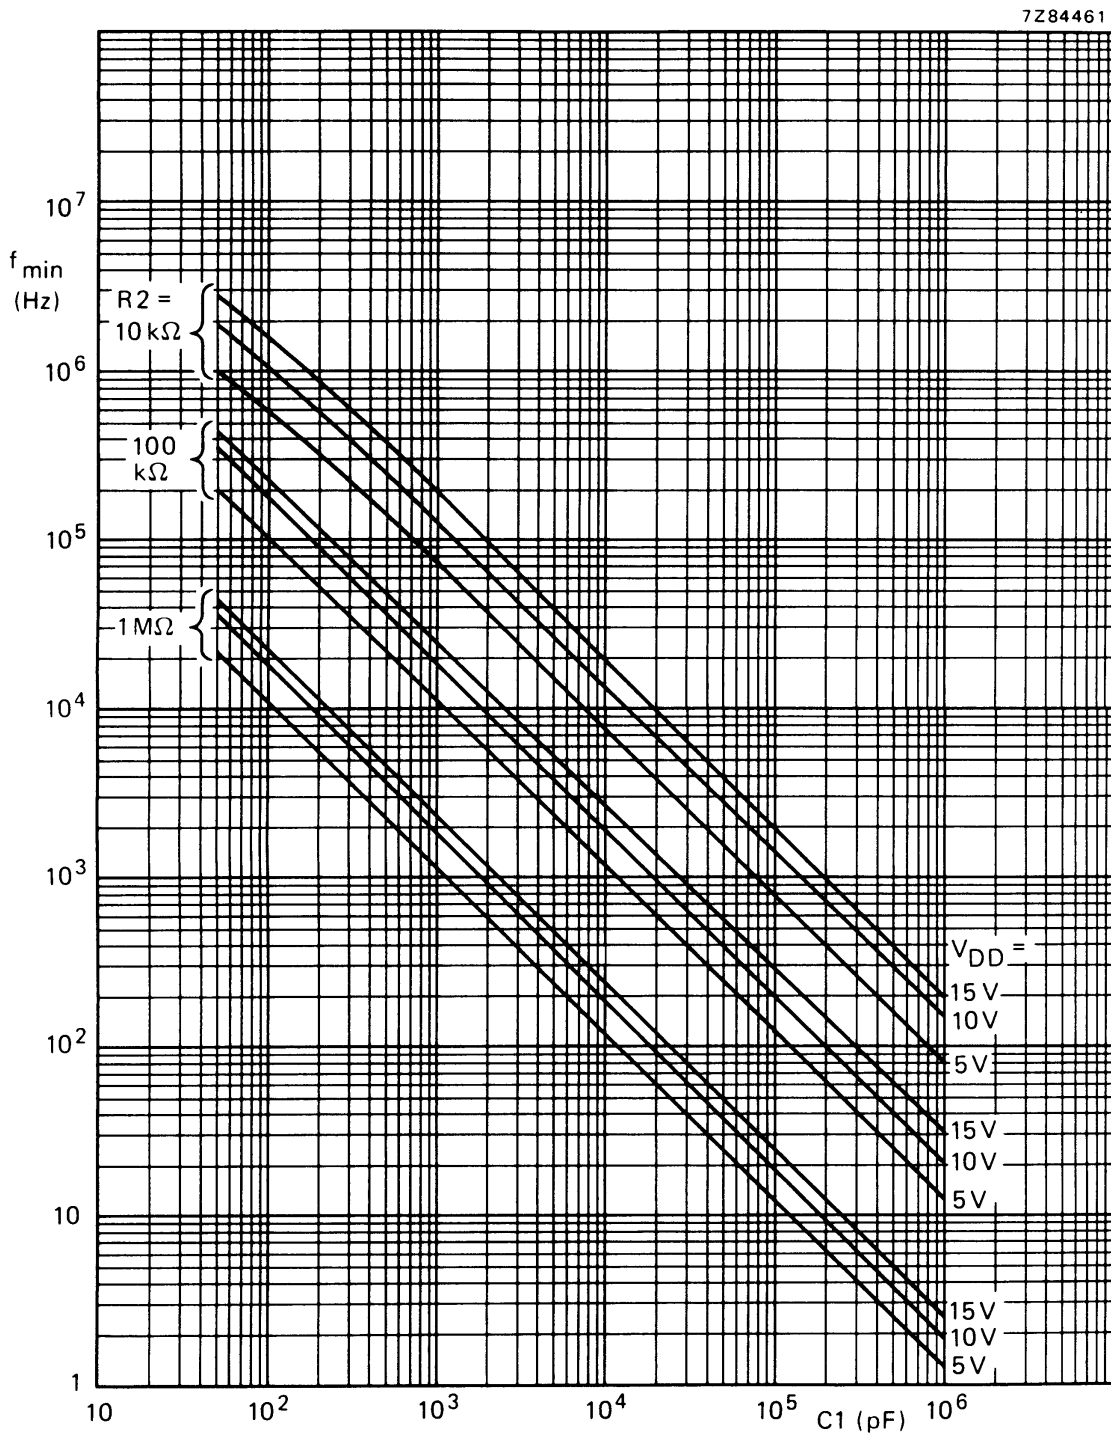
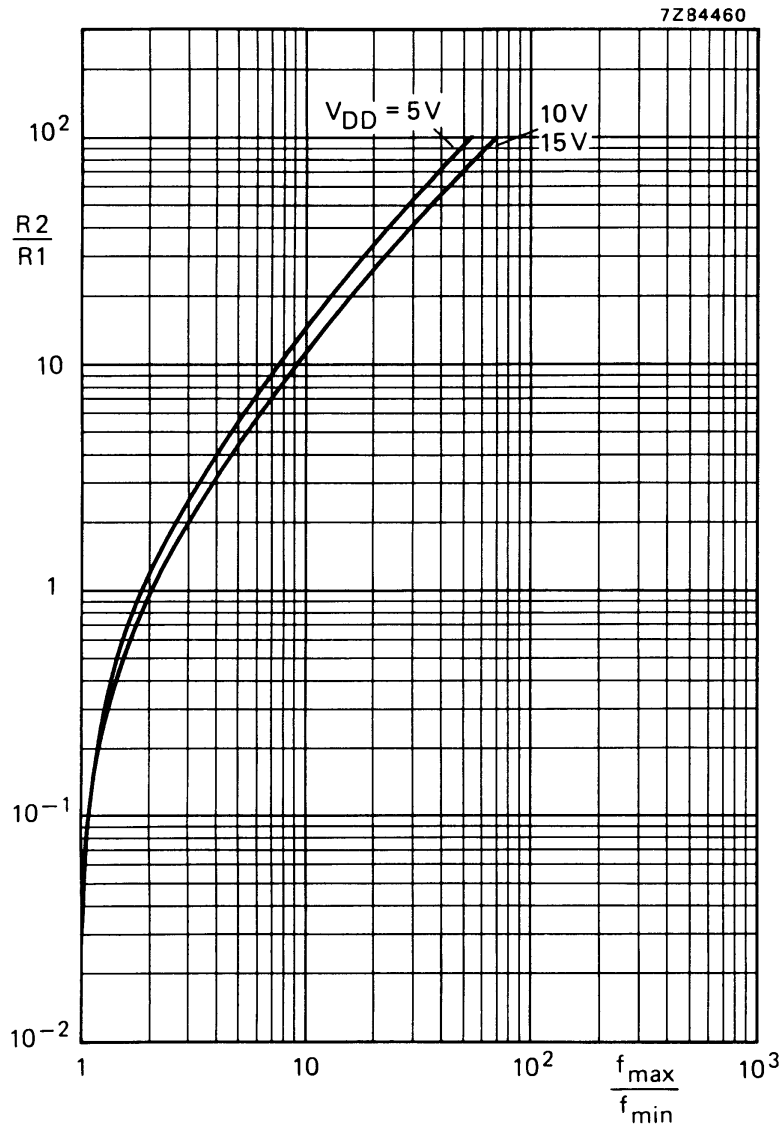

Fig.8 Typical frequency offset as a function of capacitor C_1 ; $T_{amb} = 25\text{ }^\circ\text{C}$; V_{COIN} at V_{SS} ; INH at V_{SS} ; $R_1 = \infty$.
Fig.9 Typical ratio of R2/R1 as a function of the ratio f_{max}/f_{min} .
- a) Given f_o and f_L : calculate f_{min} from the equation f_{min} = f_o - f_L; use f_{min} with Fig.8 to determine R2 and C1; calculate $\frac{f_{max}}{f_{min}}$ from the equation $\frac{f_{max}}{f_{min}} = \frac{f_o + f_L}{f_o - f_L}$; use $\frac{f_{max}}{f_{min}}$ with Fig. 9 to determine the ratio R2/R1 to obtain R1.
- b) Given f_{min} and f_{max}: use f_{min} with Fig.8 to determine R2 and C1; calculate $\frac{f_{max}}{f_{min}}$; use $\frac{f_{max}}{f_{min}}$ with Fig.9 to determine R2/R1 to obtain R1.